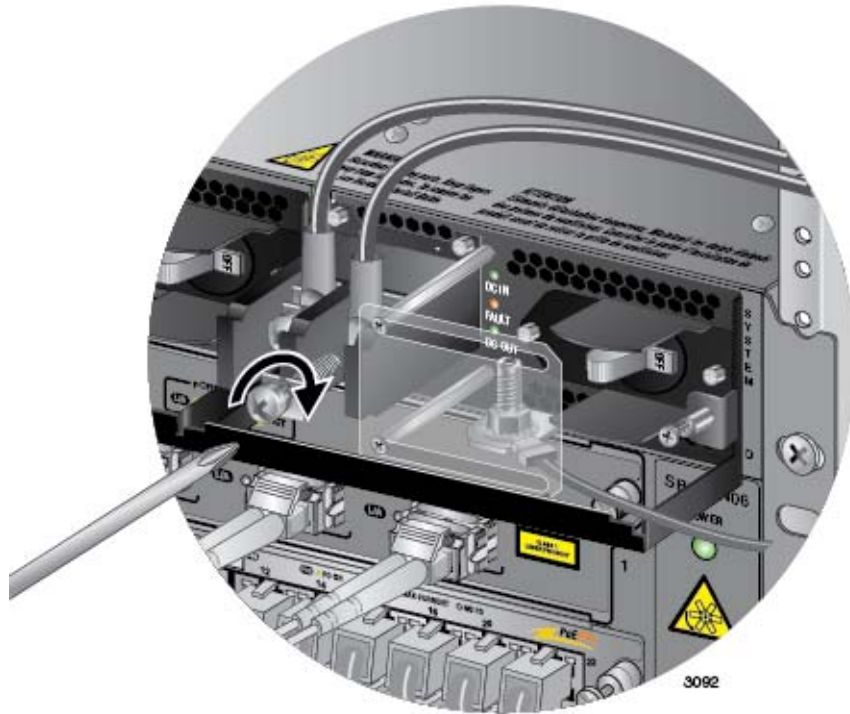

Figure 141. Connecting the Negative (-) Power Wire with a Straight Terminal
7. With a #3 Phillips-head screwdriver, connect the negative (-) power lead wire to the negative terminal on the power supply, with the remaining terminal screw removed in the previous step 5. The negative terminal is on the right. You may attach the terminals with the wires either above or below the terminal block. Figure 141 on page 200 shows the wires above the terminal block.